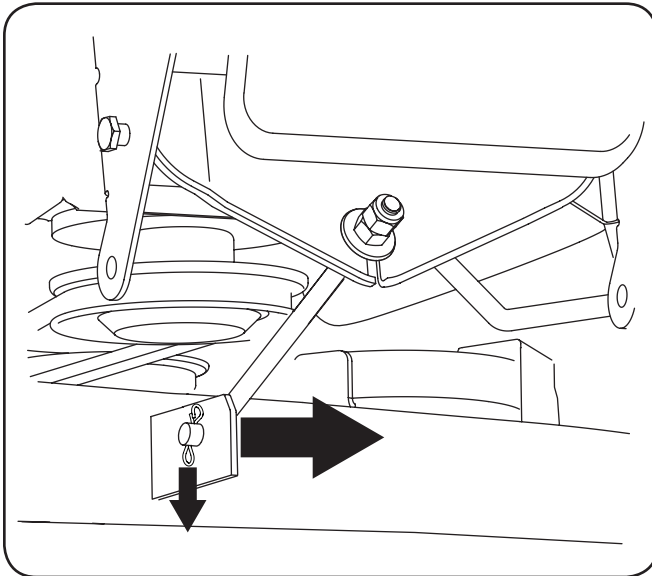

Figure 7-4
9. Remove the cotter pin from the end of the stabilizer rod and slide the stabilizer out of the hanger bracket on the deck. See Fig. 7-4.